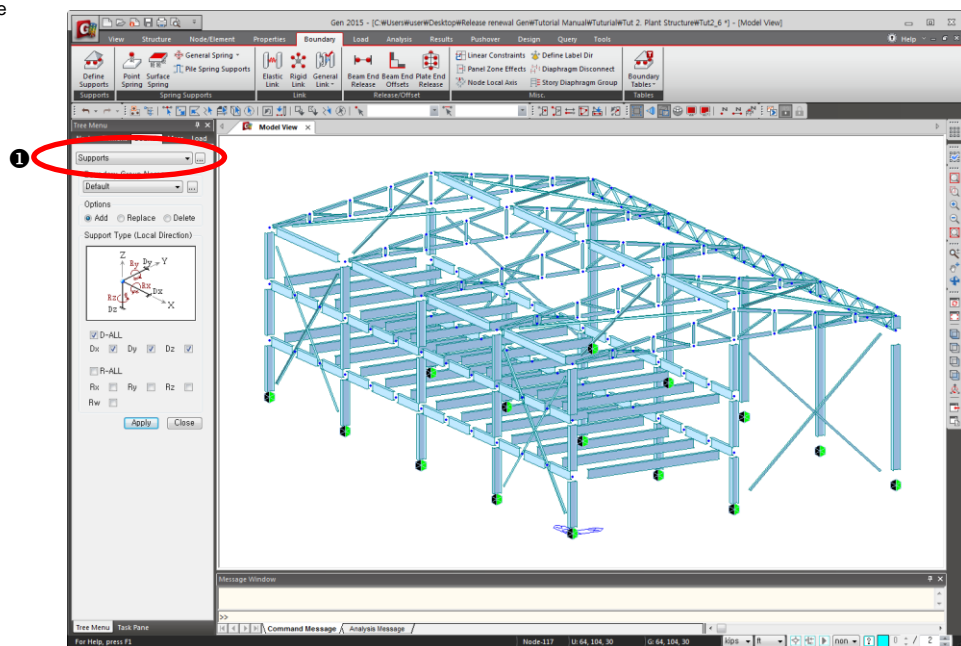

Figure 2.16 Data Entry of Support Conditions
1. Select the **Boundary** tab as shown in Fig.2.16-①.
1. Select the **Load** tab as shown in Fig.2.16–**1**.